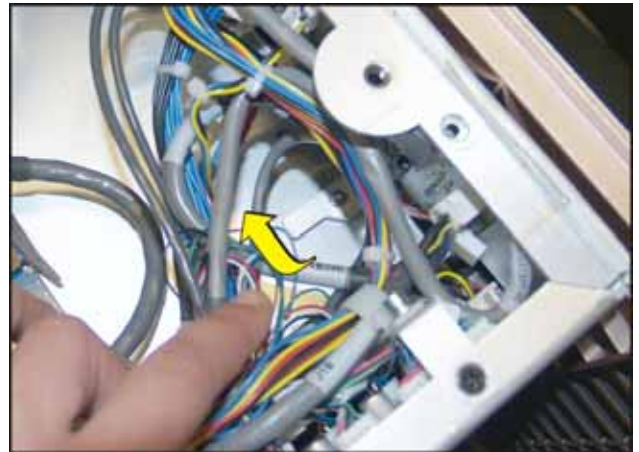

Figure 5-59 Spring Latch for Security Ring
3. Release the security ring by pushing the latch, located on the inside of the cardcage, to the right. **(Figure 5-59) NOTES: 1) Marriage is broken when this latch is toggled. 2) The security ring should only be removed by Christie authorized service technicians.**
3. Release the security ring by pressing right on the latch located on the inside of the cardcage. **(Figure 5-59)**
3. Remove the security ring by pressing right on the latch, located on the side of the cardcage. See **Figure 5-59**. **NOTES: 1) Marriage is broken when this latch is toggled. 2) The security ring should only be removed by Christie authorized service technicians.**
3. Remove the security ring by pressing right on the latch, located on the side of the cardcage. Refer to, **Figure 5-59**. **NOTES:** **1)** *Marriage is broken when this latch is toggled.* **2)** *The security ring should only be removed by Christie authorized service technicians.*